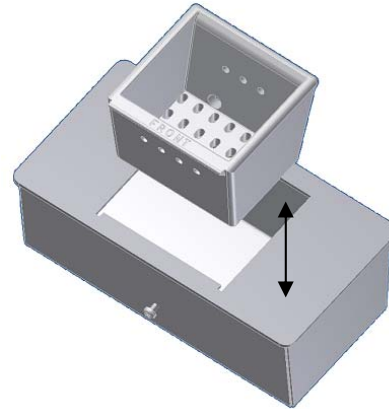

FIGURE 16
- Remove the burnpot's inner section by grasping it and pulling straight up (see Figure 16).